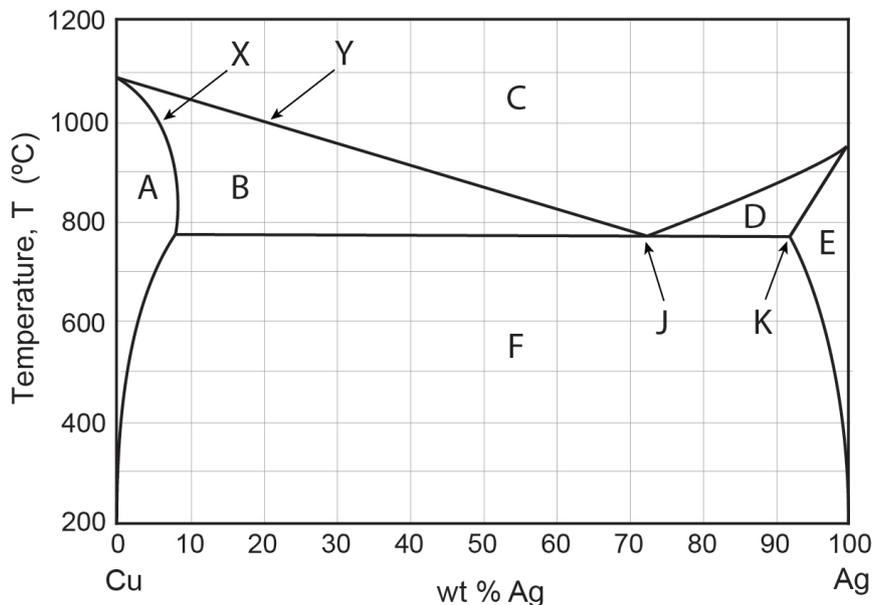

Fig. 5
6 Figure 5 shows the Cu-Ag equilibrium phase diagram.
- (c) (i) What does the point labelled J on Fig.5 indicate? Explain why this composition is particularly important in casting. [3]
- (ii) What does the point labelled K on Fig. 5 indicate? Explain the relevance of this composition to the hardening potential in Ag-rich alloys containing Cu. [3]